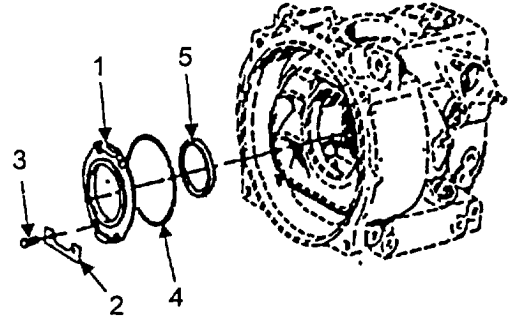

FIGURE 5-50. OIL SEAL
- a. Remove support (Figure 5-50, Item 1) by removing two security plates (2) and four hex screws (3). Discard preformed packing (4)
- b. Remove Oil Seal (5).
- a. oil seal in support (Figure 5-50, Item 1).
- c. Lubricate new preformed packing (4) with grease and install it in preformed packing groove in support.
- d. Install support (1) onto crankshaft with two security plates (2) and four hex screws (3).